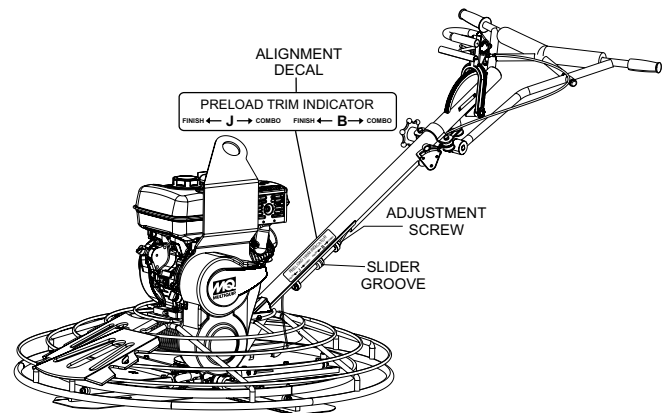

Figure 13. Spring Pre-Load Adjustment
- Locate the spring pre-load adjustment screw (Figure 13) on the underside of the handle tube.